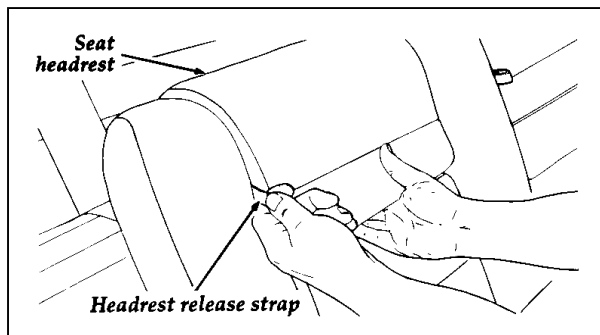

Figure 1
2. Pull down on the shoulder belt, then grasp the shoulder belt and lap belt together. See Figure 1.
1. Pull the headrest release strap and grasp the headrest as shown in Figure 1. Then release the strap and rotate the headrest fully until the latch “clicks” in the full up position.